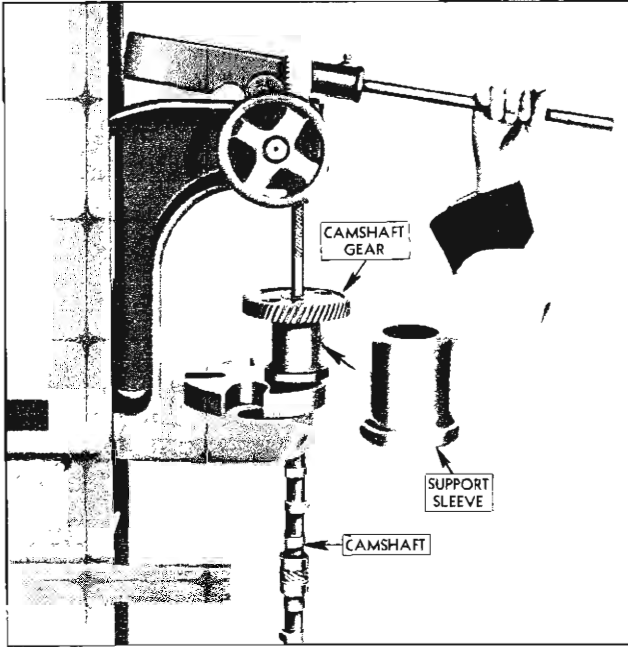

Fig. 35—Removing Camshaft Gear
2. Place the camshaft through the gear remover, place end of remover on table of a press and press shaft out of gear (fig. 35).